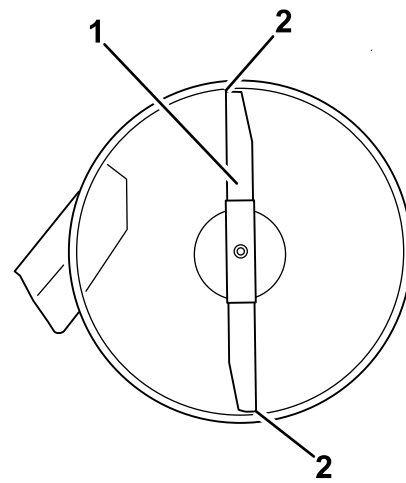

Figure 67
- 4. Carefully rotate the blade(s) so they are facing front to rear (Figure 67 and Figure 68).
- 5. Measure from the tip of the front blade to the flat surface, and the tip of the rear blade to the flat surface (Figure 67 and Figure 68).